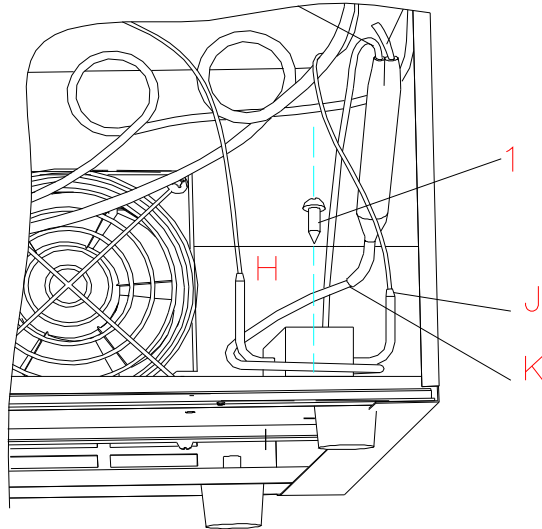

Fig. 9
b. The refrigerator valve damage and can not be switch, cause not cooling, replace with the new one.(Fig.9)
A. Use welding facility to heat the 3 welding point H, K, J, and then take off the refrigerant valve. (Fig. 9)
B. Use the cross screwdriver to wrest the refrigerant welding screw 1 (totally 2pcs, another isn't show in the picture.) ; (Fig.9)